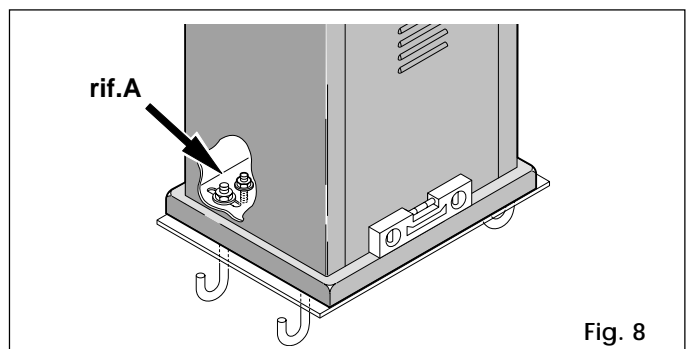

Fig. 8
- 2) Fit the adjustment screws on the gear motor base as shown in A, fig. 8.
After installing the rack, lower the position of the gear motor (fig. 12) by adjusting the level screws (A, Fig. 8) by about 4 mm to ensure correct meshing with the pinion.